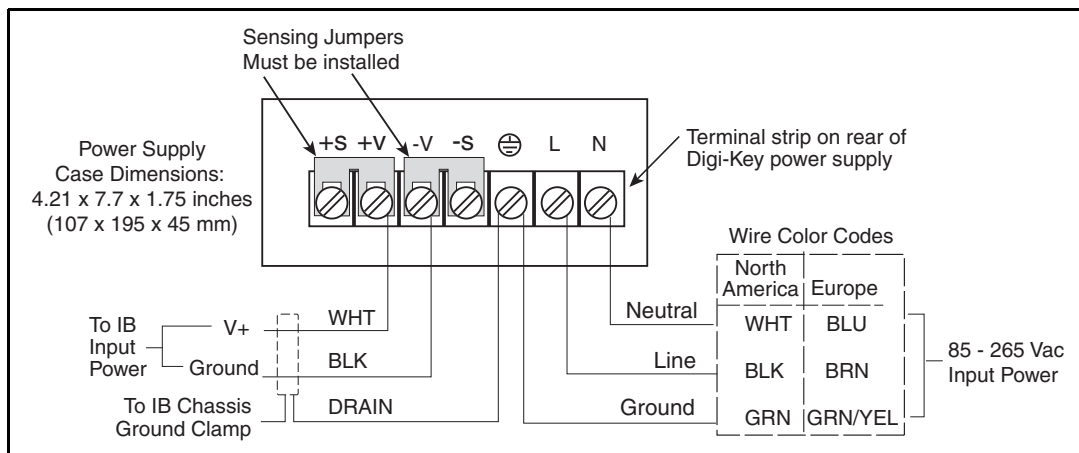

Figure 17. Digi-Key Power Supply Wiring Diagram
**Digi-Key** Model 285-2346-ND 24 Vdc, 6.5 ampere power supply. (See Figure 17 for connection wiring diagram) To order, visit their website at [www.digikey.com](http://www.digikey.com).